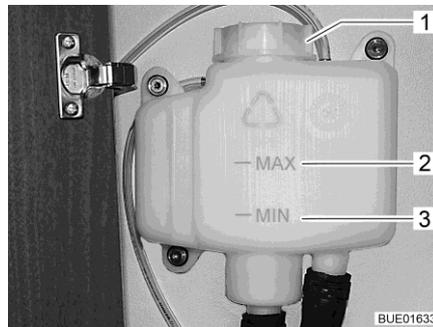

Fig. 292 Compensator reservoir without panel
- Check if the fluid level is between the marks "MIN" (Fig. 292,3) and "MAX" (Fig. 292,2) on the compensator reservoir (Fig. 292).
- Open the rotary lid (Fig. 292,1) on the compensator reservoir.